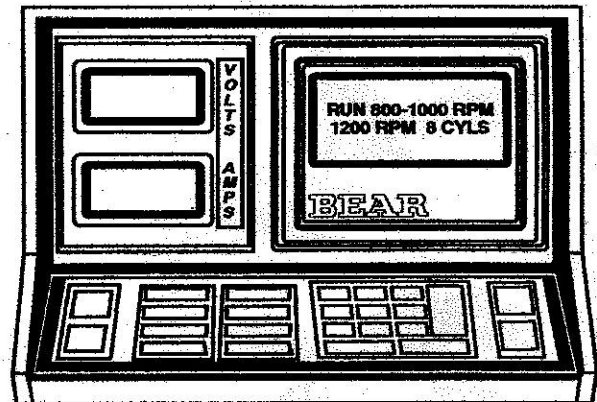

Figure 18
- E. After idle test, the display may read "RUN 800-1000 RPM" (see Figure 18). This message appears if RPM was not high enough, or if conditions were not right during the diode reading. For the computer to properly read diode condition, RPM must be between 800 and 1000. Raise RPM to between 800 and 1000 and hold it. (If RPM is "N/A," press [CONTINUE].)